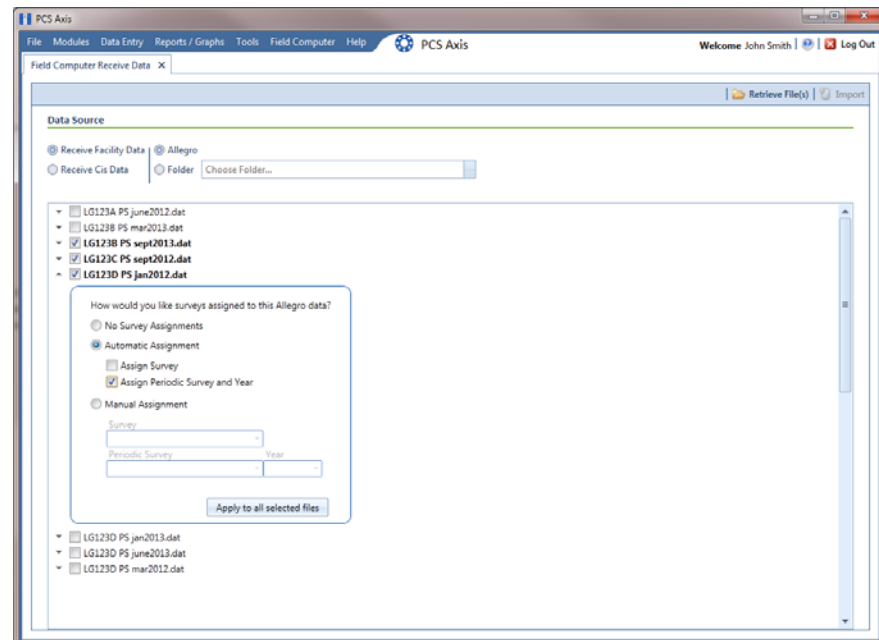

Figure 13-18. Field Computer Receive Data
- 5 Choose survey files you want to transfer from the Allegro. Click the check box for one or more survey files in the list of files available for selection (Figure 13-18, page 537).